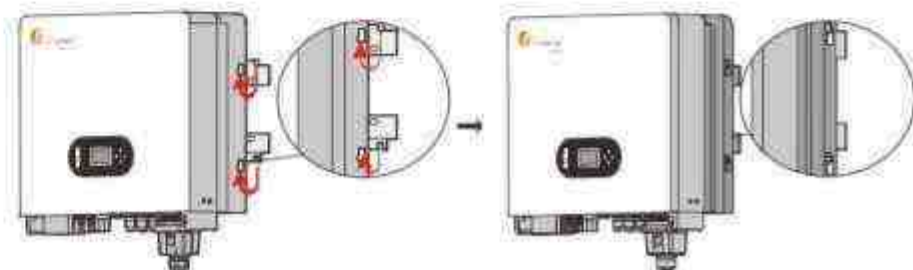

Figure 3.4-2 Installing an Inverter
Step 2: Lift the inverter to fix it on the installation bracket. We can prevent theft by locking. See Figure 3.4-2.